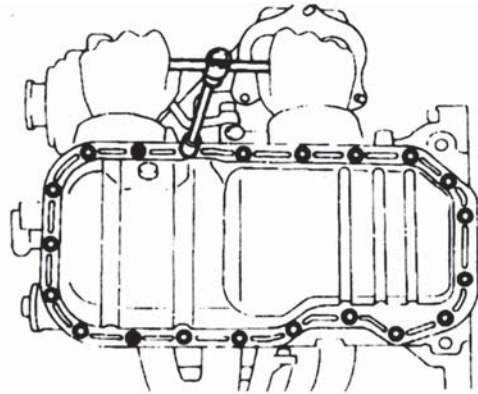

Figure 83
5. Detach oil sump sub-assembly. See (Figure 83)